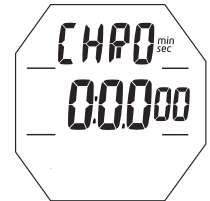

Fig. 65 - CHRONO (reset)
- A (2 sec) - to Reset the Timer to 0:00_00 (Fig. 65).